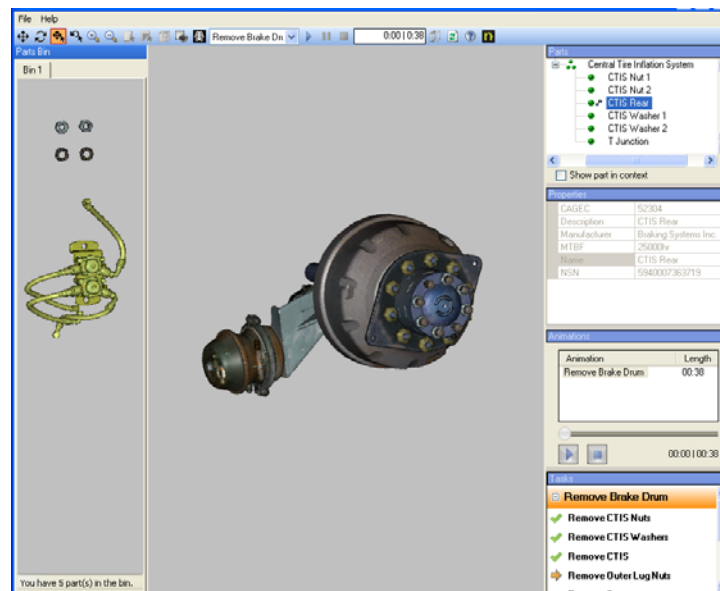

Figure 2.15 Remove the parts and drag them to the parts bin
- For remove steps, remove parts or assemblies from the main model or subassemblies in the simulation and drag them into the parts bin (see Figure 2.15).